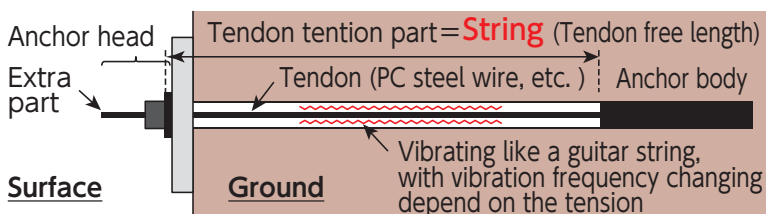

Figure 3 Schematic structure diagram of ground anchor
The free part of a tensioned tendon vibrates at a higher frequency under high tension and at a lower frequency under low tension, like a guitar (**Figure 3**). The relationship between tension and vibration (resonance) frequency is explained by Eq. (1). Since the free length of the tendon and its linear density are known from the design drawings, the tensile load can be determined if the vibration (resonance) frequency is measured. VIBRES-system is based on measuring the vibration (resonance) frequency of tendon free length, which changes depending on the tension.